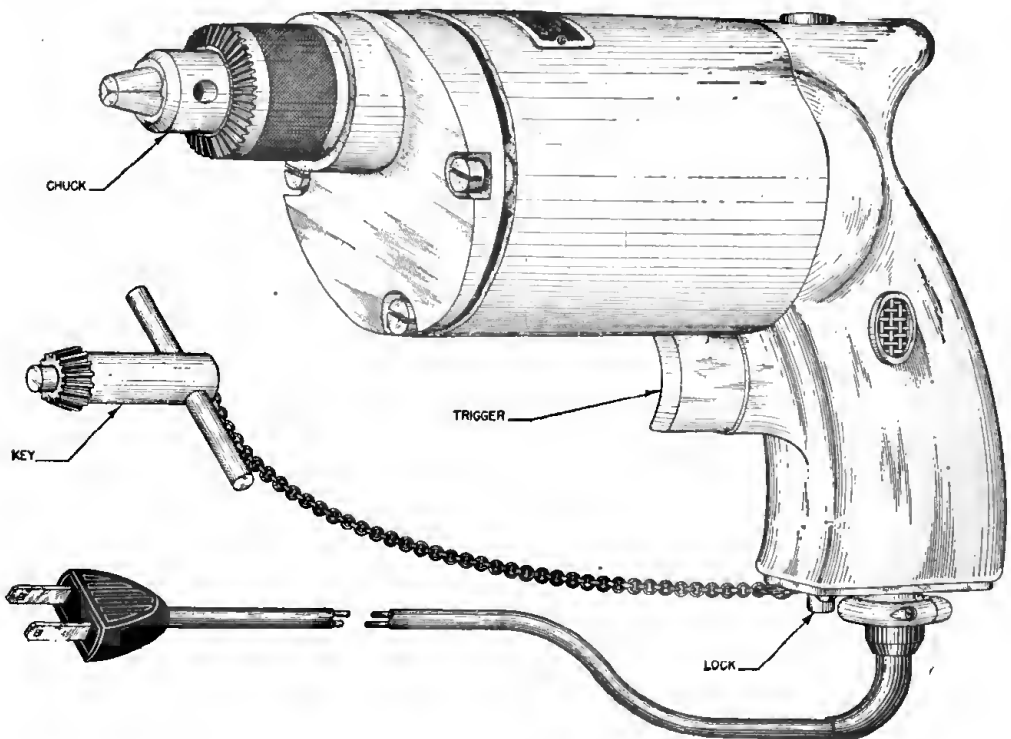

Figure 180. Electric drill.
a. GENERAL. One of the most common of the power tools is the electric drill. (See fig. 180.) It has a small, high-speed electric motor geared to the chuck through reduction gears. It is used for drilling holes in metal and other similar work.